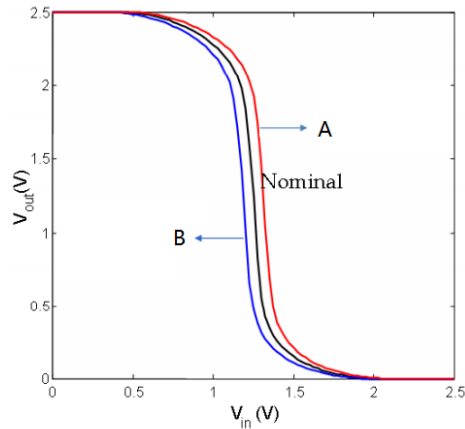

Figure 1: Inverter transfer functions.
6. The PMOSFETs and NMOSFETs in an inverter have been sized to achieve balanced rise and fall times. However, process variation has caused the implementation to deviate from the design. The A line in Figure 1 is associated with an inverter that has